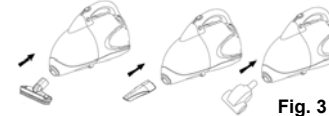

Fig. 3
- To attach the crevice tool, turbo brush, dusting brush accessory to the hand vacuum, push attachment into the suction hole. (Fig. 3)